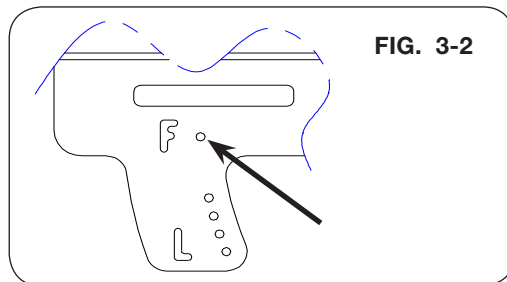

FIG. 3-2
3. Ensure the spinner is located at the “F” (fertilizer) position for product application. (FIG. 3-2)